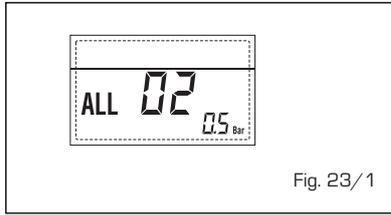

Fig. 23/1
- HIGH WATER PRESSURE ANOMALY ALARM 03 (fig. 23/2)